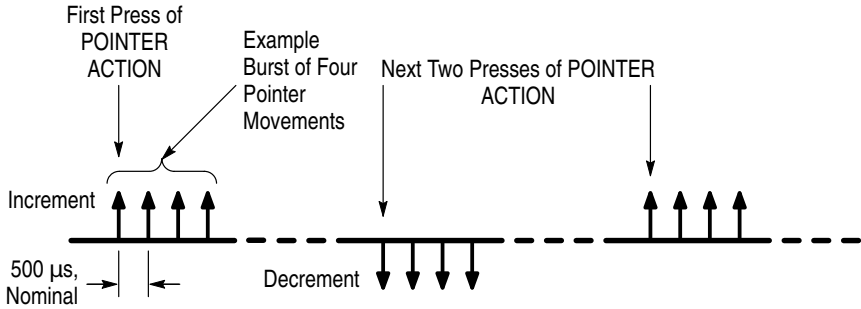

Figure 3–49: Alternating Burst Pointer Movement
**Burst Pointer Movements.** With Burst selected, pressing the front-panel POINTER ACTION button starts a burst of pointer movement. Each burst consists of a series of one-location pointer movements that are spaced four frames apart. Pressing POINTER ACTION repeatedly alternates between an incrementing burst and a decrementing burst (see Figure 3–49).